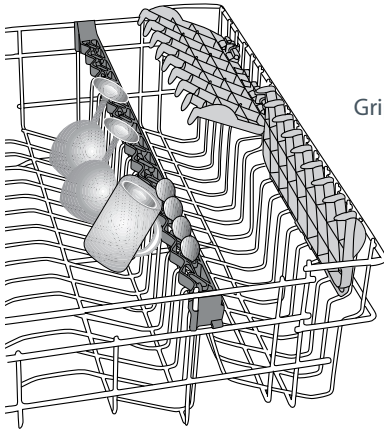

Fig. 18 Lean long-stem glasses against the glass support insert or the cup rack
- Lean glasses or goblets with long stems against the glass support insert (as shown in Fig. 18) or the cup rack, but never against other dishes or each other. Doing so may make them unstable during a wash programme, and they may get damaged.